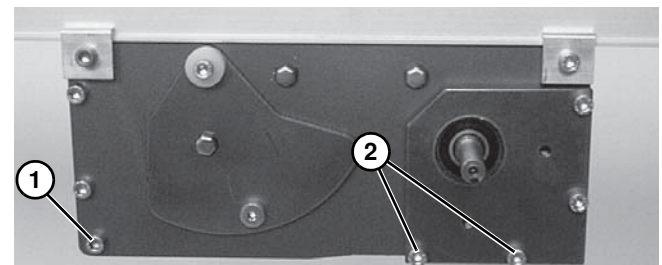

Figure 74
10. Tighten corner screws (**Figure 74, item 1**) on each side of the drive module to 80 in-lb (9 Nm).
12. Re-install tension door screws (**Figure 74, item 2**) on each side of the module. Tighten screws to 60 in-lb (6.8 Nm).
*With vertically mounted gearmotors, tension door screws (**Figure 74, item 2**) are installed on one side when the gearmotor mounting package is installed.*